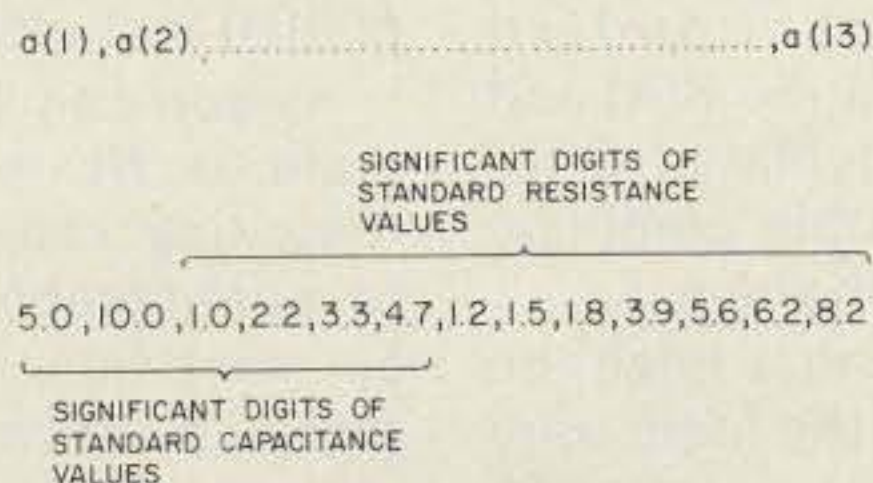

Fig. 3.
Lines 10-30 are merely the introductory print statements. At 40, the user inputs the frequency "f". At 65, the values of a(1) through a(13) are read from the data statement at line 230 (see Fig. 3). Note that the values of a(1) through a(6) are the significant digits of the more common standard values of capacitance and that a(3) through a(13) are the significant digits of the common standard value of resistance. These values of a(1) through a(13) will be used first to obtain all the standard resistance values, and then to determine whether the calculated capacitance is indeed a standard value.